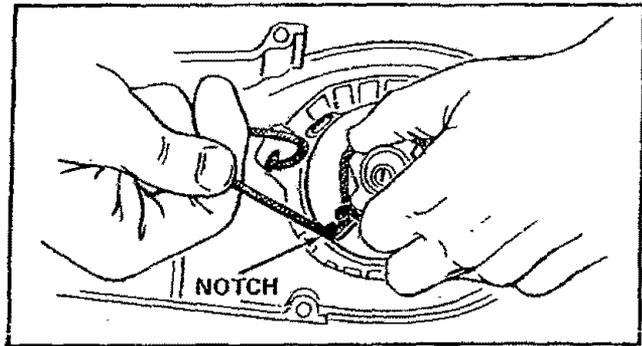

Figure 49
16. Hold the 10 inch slack in the rope and catch rope in pulley notch. Figure 49.